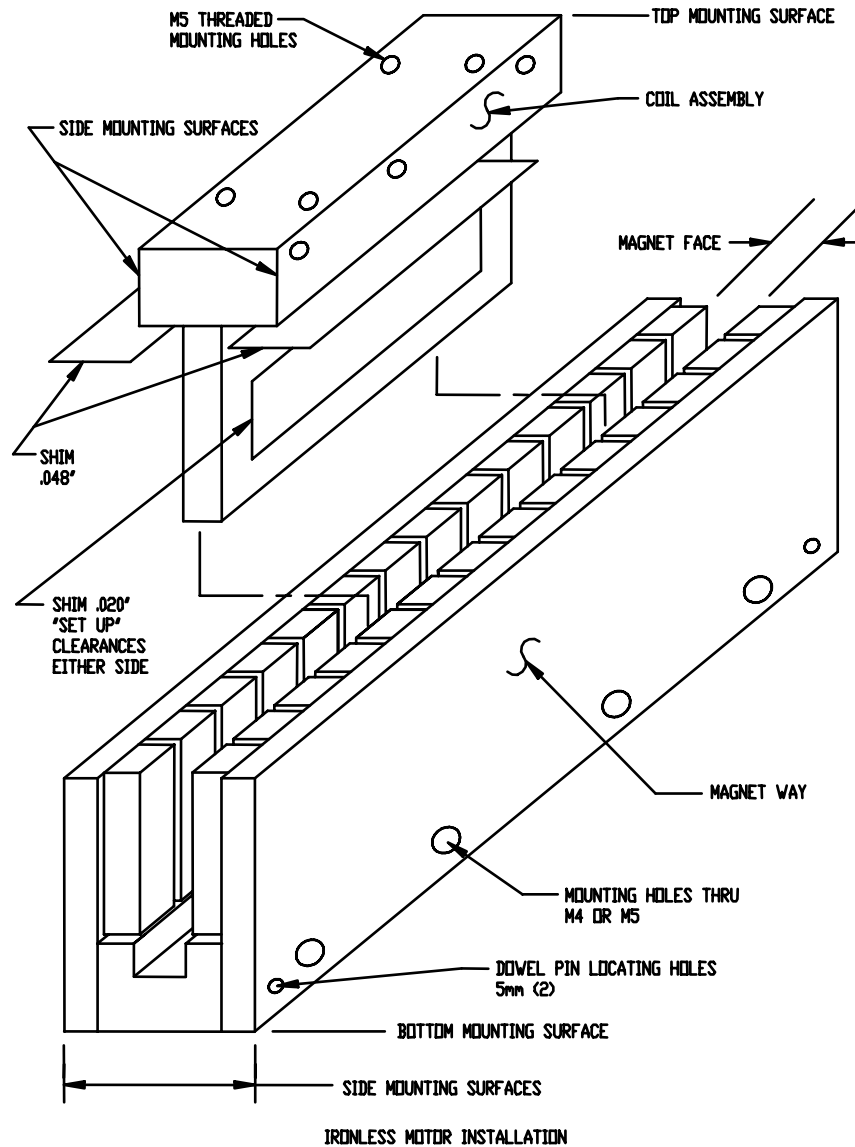

Figure 4. Ironless Motor Installation.
CAUTION: The relationship of the moving coil relative to the stationary magnet way is critical. The magnet way mounting surface should be parallel within .005-inch TIR with respect to the coil/slide travel. Regardless of the motor mounting configuration, bottom mount or side mount, the required set up gap of .020-inch is required, between the coil surface and the magnet face surface. See figures 4 and 5.
4. Install the magnet ways using two 5mm locational dowels (recommended), see figures 4 and 5. Two pins required per magnet way. For Pin location dimensions see the magnet way outline drawing. Pin location between magnet ways is $1.811 \pm .002$ -inch for all magnet way lengths.
The setup clearance dimension between the top of the magnet way and the coil is $.048 \pm .002$ -inch, see figure 4.